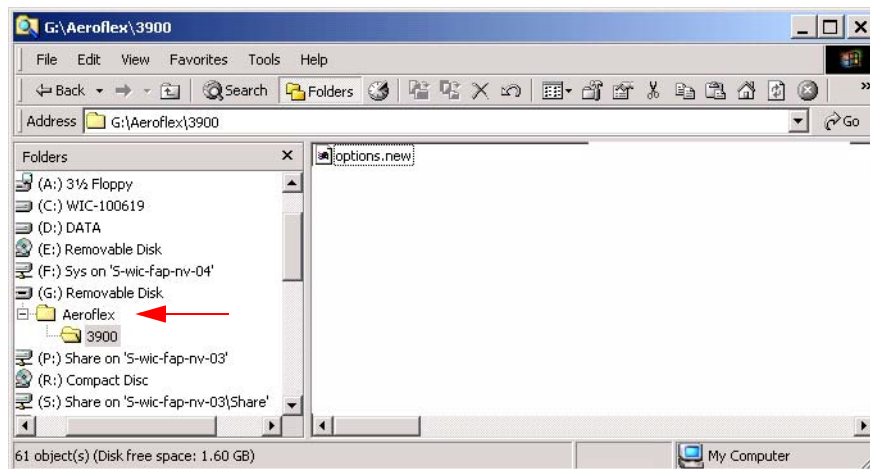

Fig. 3-53 Directory Format for License Installation
- Create Aeroflex\3900 directory on USB memory device or Floppy Disk. Place options.new file in 3900 folder. Refer to Fig. 3-53 for an example of directory formatted on a USB memory device.